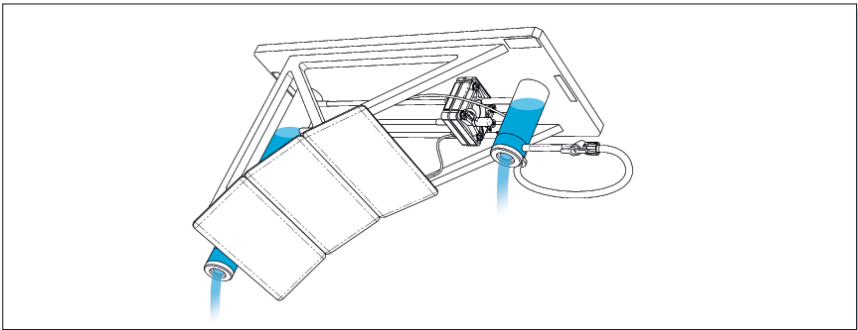

Fig. 7: Draining the hydrogen storage tank and the water reservoir
- Drain the hydrogen storage tank and the water reservoir, as shown in figure 7. The water must be disposed of correctly (e.g. drain).